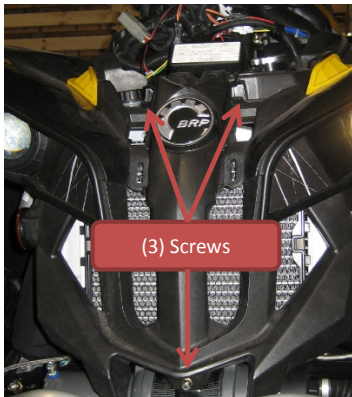

Figure 7
- (1) located at the bottom of the BRP bumper and inline with the BRP symbol (Figure 7)